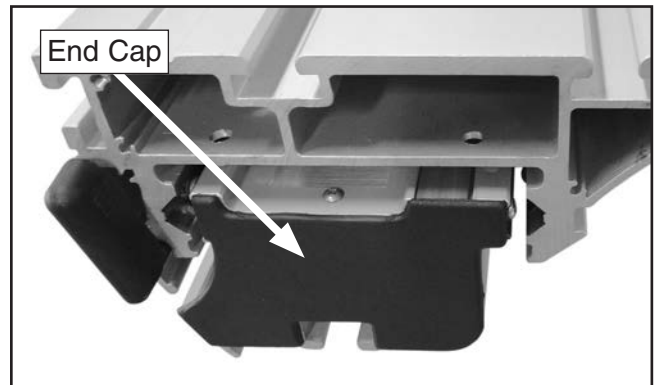

Figure 28. Installing the lock plate.
- Insert the end cap into the sliding table, as shown in **Figure 28**.